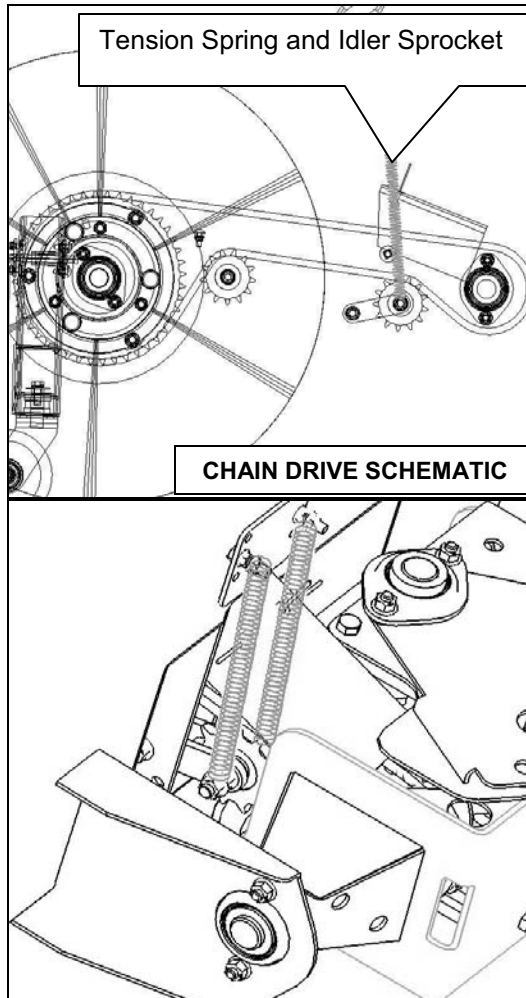

Figure 3-6
- a. To replace the roller chain, remove the bolts that hold the springs on the idler. Remove springs, Figure 3-6.